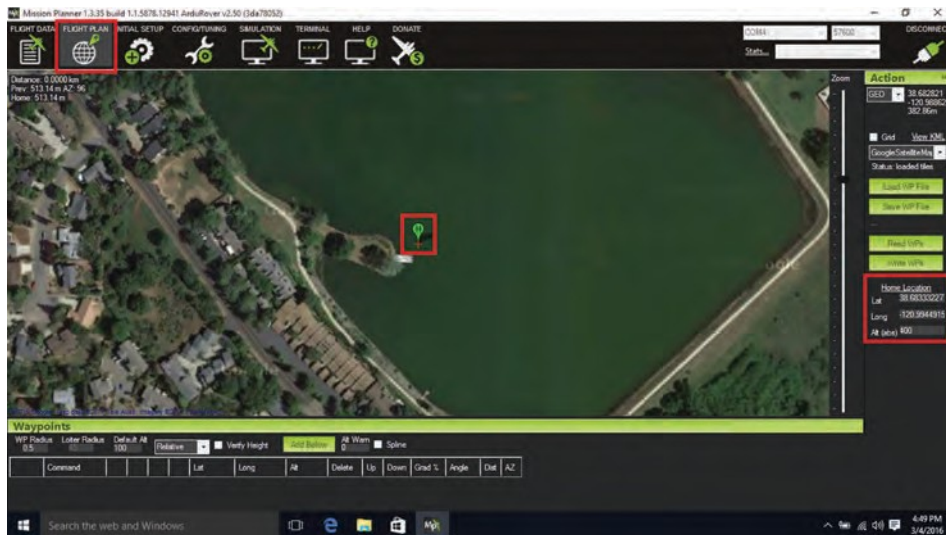

Figure 7: Click on Flight Plan tool (upper left of tool bar);
- C Click on Flight Plan tool (upper left of tool bar)—see Figure 7.
- D Click Home Location button to set Home (right side of screen)—see Figure 7.